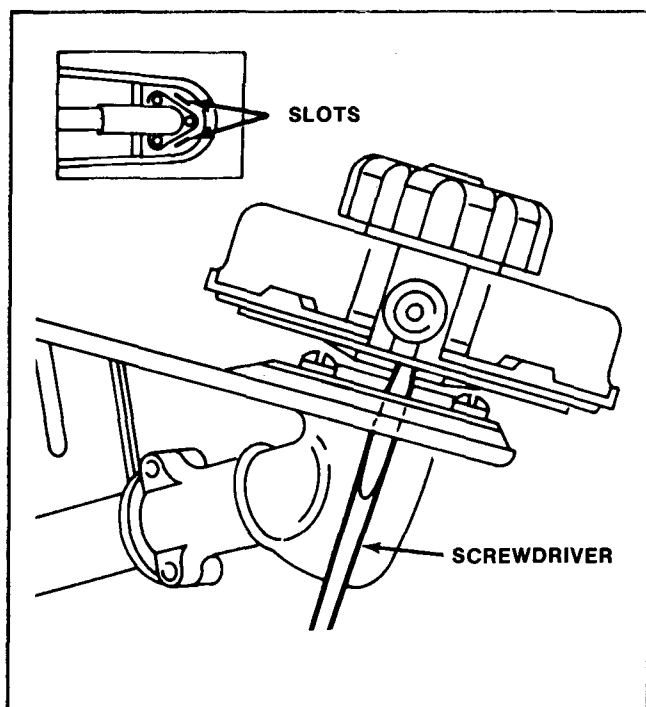

Figure 143
1. Grasp the cutter head to prevent it from turning and remove the knob by turning it clockwise. See Figure 143.